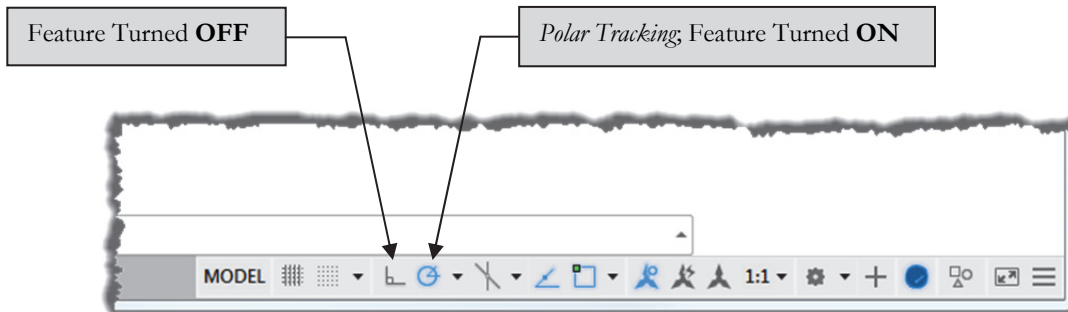

FIGURE 2-1.9 Status Bar – shown with Polar Tracking turned on.
14. On the *Status Bar*, make sure **Polar Tracking** is turned on. (Figure 2-1.9). *It should have a bluish highlight when turned on.*